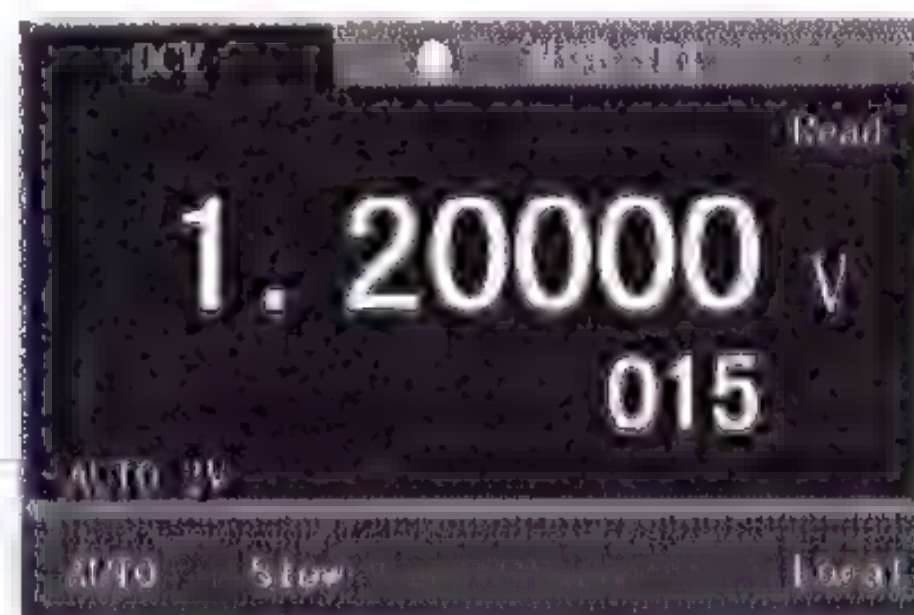

Figure 5-14 Data readback function
2. Press  to view the saved data, as shown in Figure 5-14. Press  again to exit the data readback function.